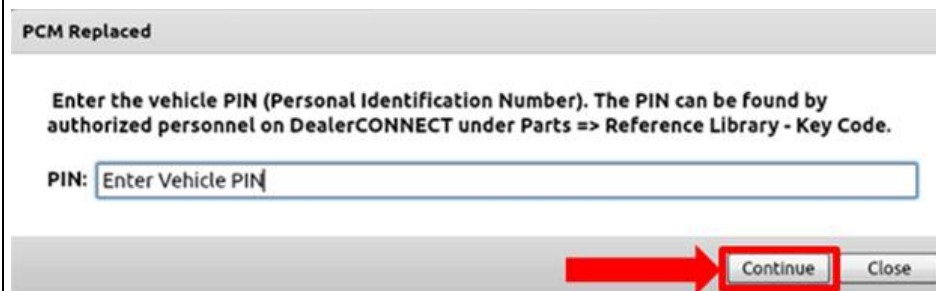

Figure 8
8. When prompted, enter the PIN. Like the previous step you will be asked to verify the PIN is correct before the routine can proceed. Select Continue (Figure 8).